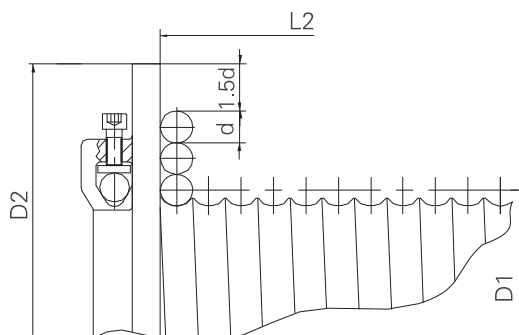

图5/ Figure 5
4.4 卷筒和钢丝绳相关计算（图5）：
4.4 The related calculations between drum and rope (figure 5):